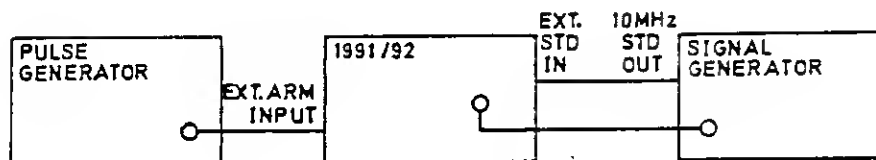

Figure 6.34 - Connections for External Arming PVP
- Connect the test equipment as shown in Figure 6.34